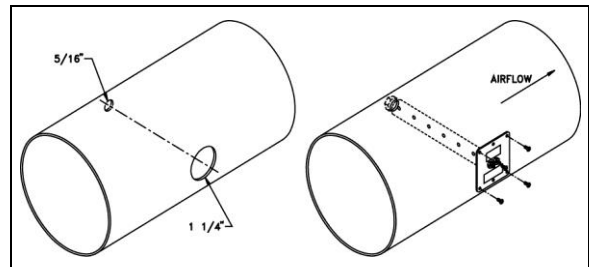

Figure 8: Flow Station Hole Location
2. Drill a 1¼" hole in the side of the duct work. If probe is longer than 18 inches, drill a 5/16" hole directly across from the 1¼" hole (Figure 8).
5. Screw the flow station into place with sheet metal screws (screws not provided by TSI). On 18 inch and longer flow stations tighten the 5/16" nut. The finished installation should look like Figure 8.